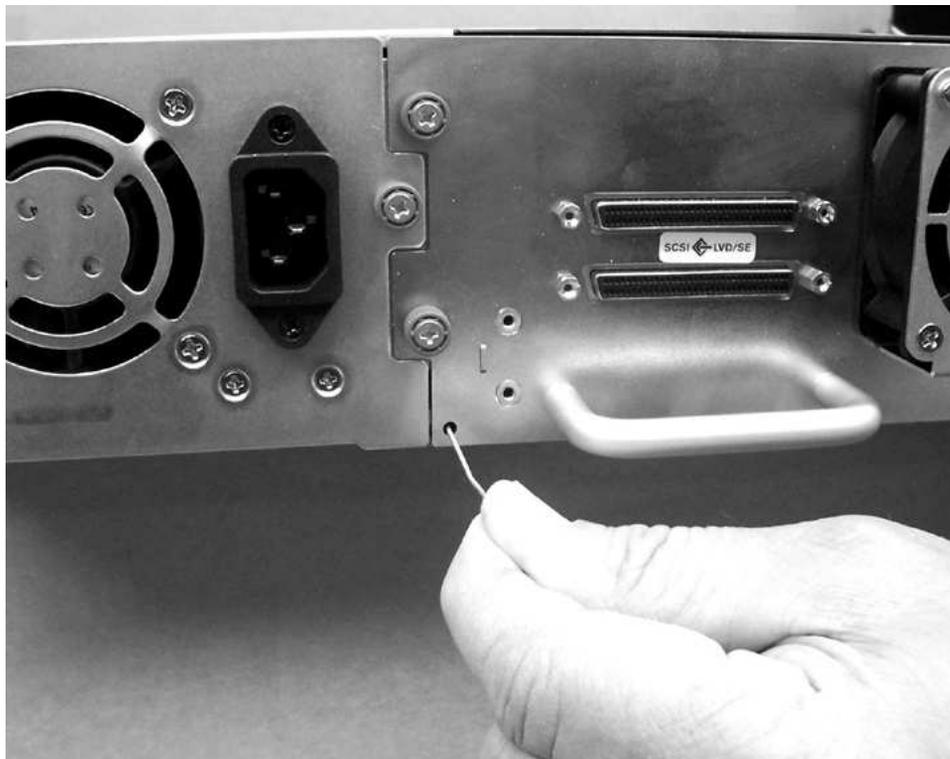
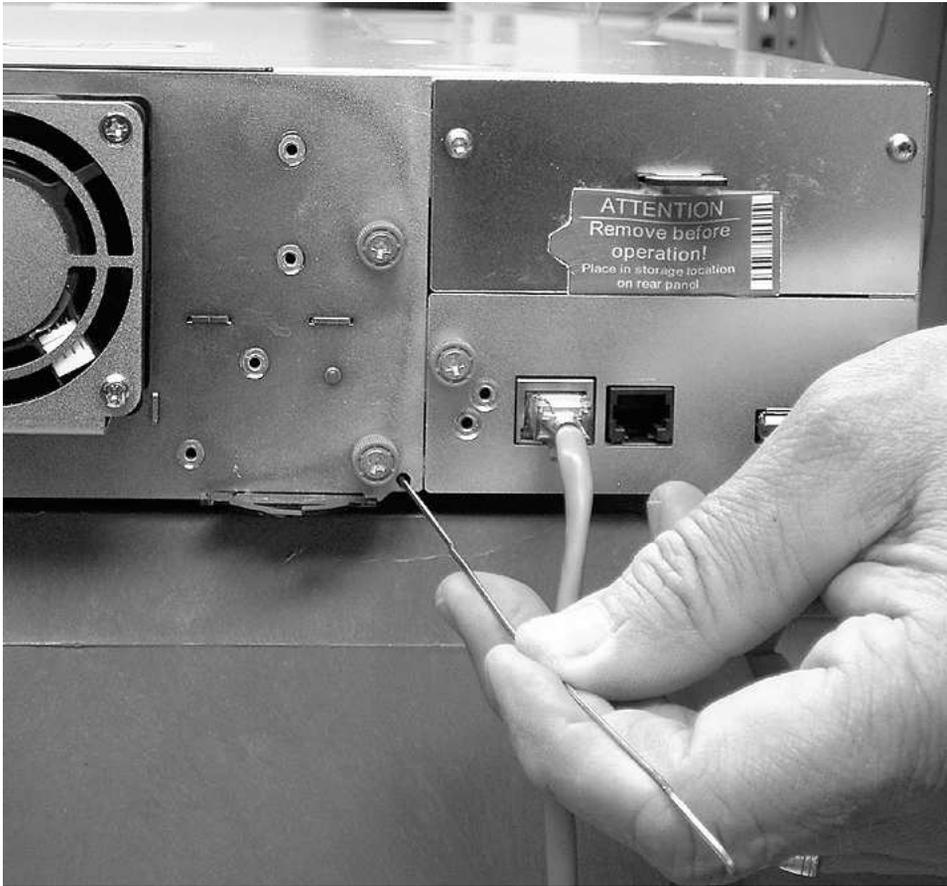

Figure 156. Access hole for the left magazine (facing rear of library)
Figure 157. Access hole for the right magazine (facing rear of library)
- a. Find the access holes for the right and left magazines (see Figure 156 and Figure 157 on page 214).